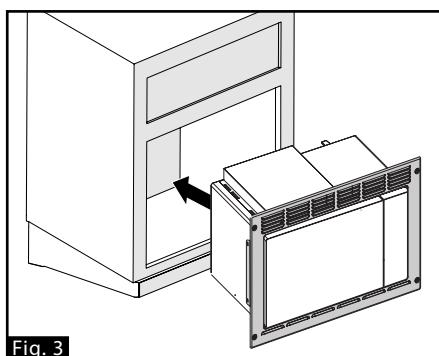

Fig. 3
4. Place the microwave oven into the cabinet opening (Fig. 3).